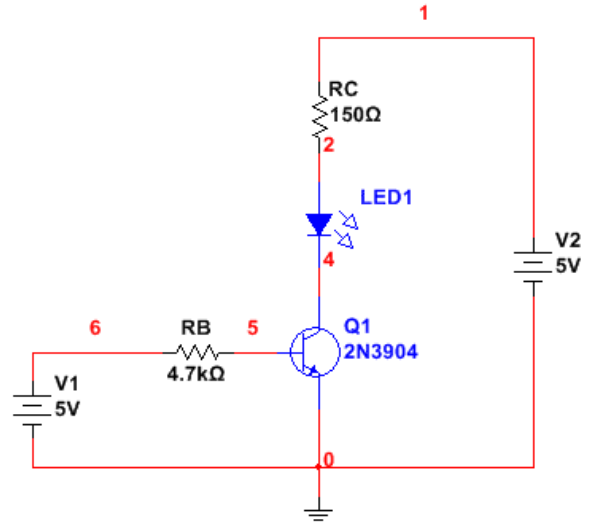

Figure 1: LED Driver circuit
Calculate the theoretical values for the driver circuit in Figure 1.
- Enter the circuit in Figure 1 in Multisim.